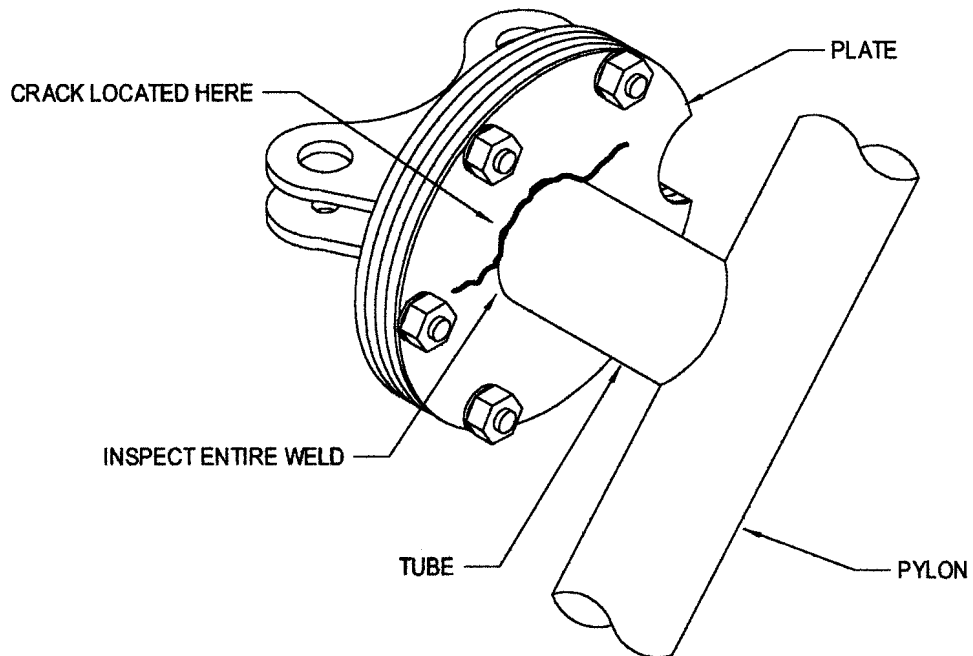

FIGURE 2
Enstrom has received two reports from the field of a cracked isolation mount weldment. The cracks occurred at the weldment between the plate and the tube (see Figure 2).
3. Visually inspect the weld between the plate, the tube, and the surrounding area for cracks using a flashlight and mirror (see Figure 2).